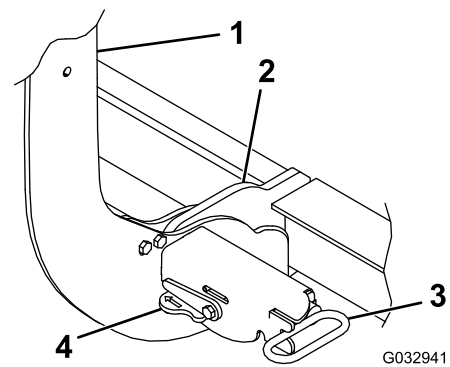

Figure 17
3. Turn the levers on the couplers to the ON position (Figure 17).
6. Ensure that both coupler spring pins have fully engaged the coupler (Figure 17).